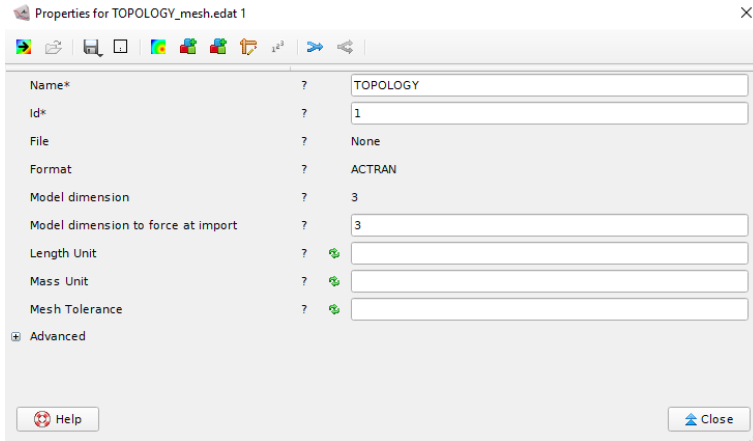
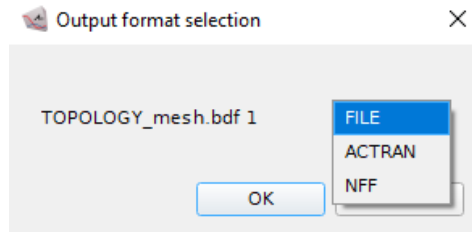

Figure 10.37: Topology property window
Figure 10.38: Topology output format selection - FILE, ACTRAN, NFF
In the property window of a topology (Figure 10.37), the following properties are available:
- If the topology is created by reading a mesh file or by importing a DAT analysis, the topology has the attributes "File" and "Format" in its property window, as shown in Figure 10.37. In this case, the topology can be exported using EDAT explicit format (choose ACTRAN option in the format selection popup, as shown in Figure 10.38), to NFF format (choose NFF option) or as a redirection to an external file (choose FILE option);